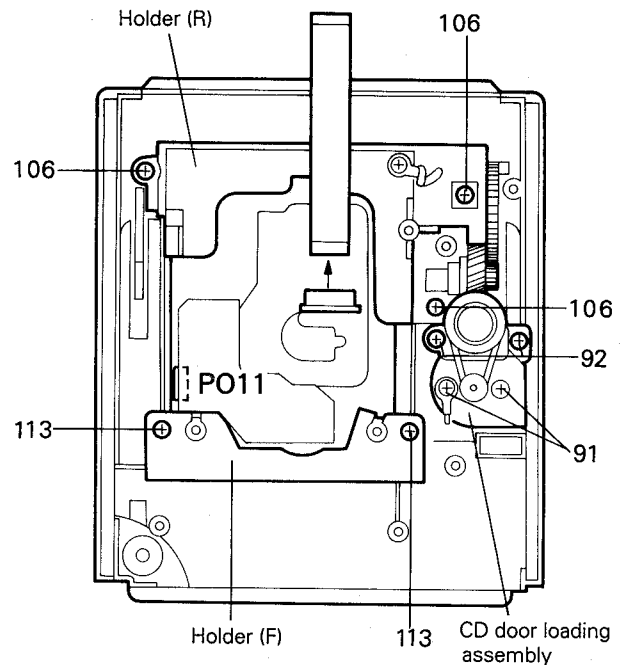
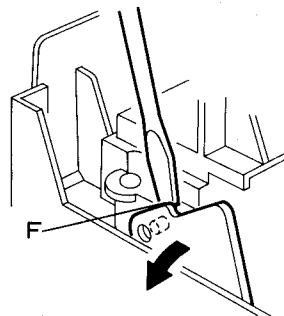

Fig. 7-18
Fig. 7-19
■ CD door loading assembly (Fig. 7-18)
■ CD mechanism assembly (Fig. 7-18)
1. Remove three screws (106) retaining the right holder (R).
2. Remove two screws (113) retaining the front holder (F).
■ CD door assembly (Fig. 7-19, 7-20)